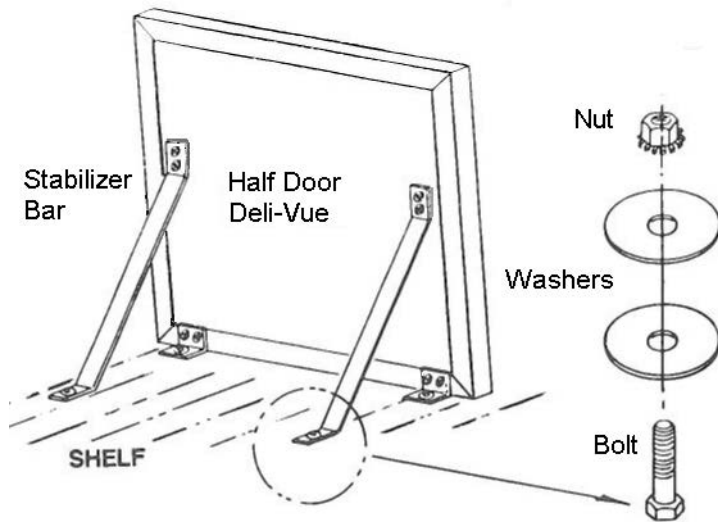

Figure 26
3. Fasten bottom end of stabilizer bars to shelf wires with nuts, bolts, and washers provided. Refer to Figure 26 .